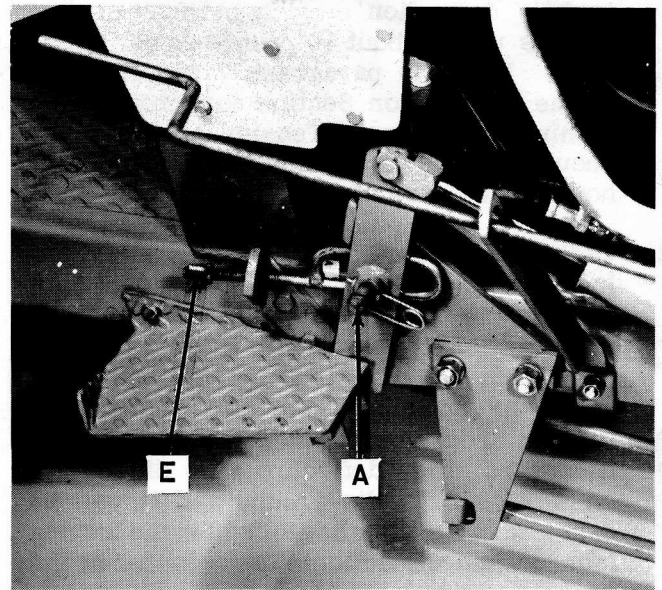

Figure 2. Adjustments for Tractors with Power Lift
If the tractor is equipped with hydraulic Power-Lift, be certain the "down-pressure" pin, Reference "A", Figure 2 is in the outer (float) position to allow the auger housing to follow the ground contour without digging in causing possible damage to the snowcaster.
5. Lift Lever - The wing nut, Reference "E", Figure 2, on the tractor mechanical or hydraulic lift lever should normally be backed off sufficiently to allow the auger housing to lower 3 to 4 inches below grade level to keep the gauge runners in ground contact when operating on uneven terrain.